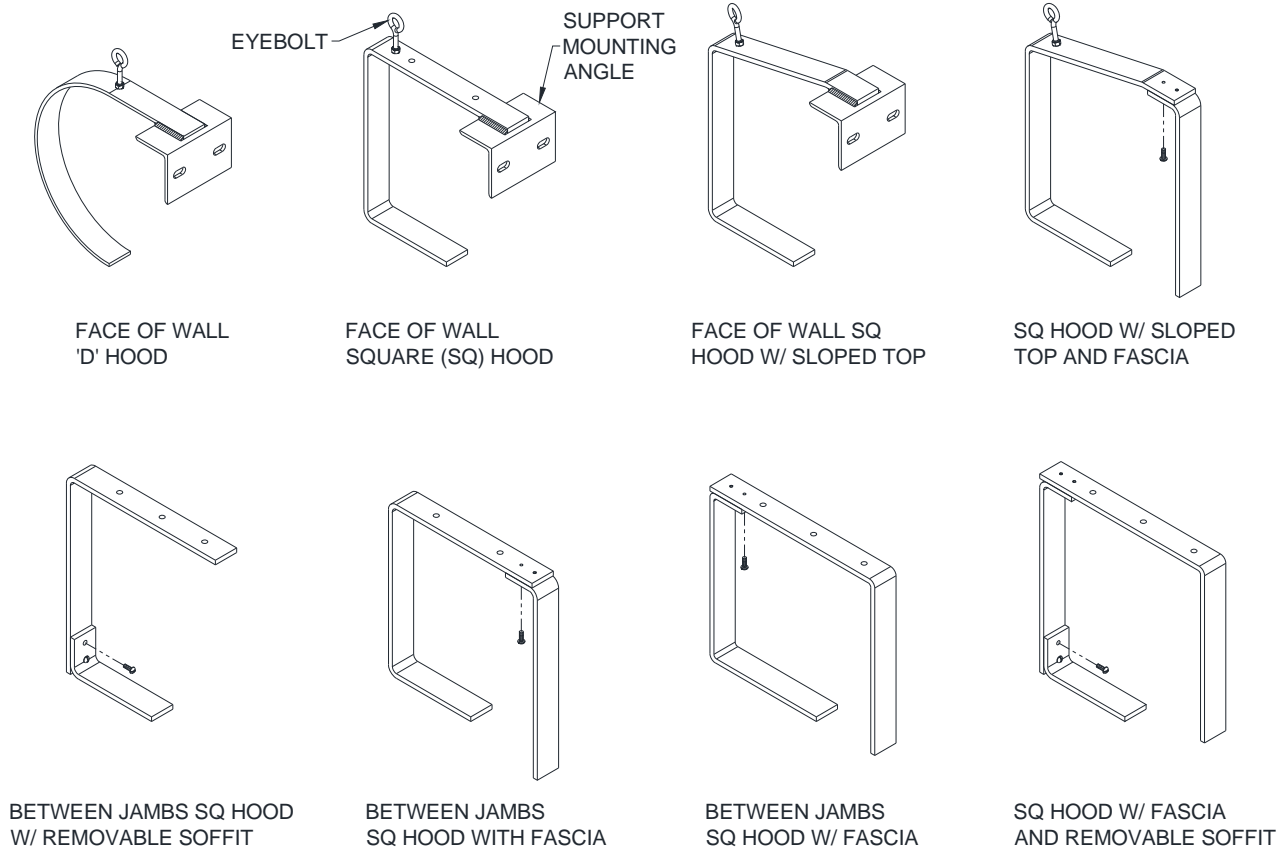

Figure 9.1 - Hood Supports
1. Refer to the job information to determine the type and quantity of hood supports required for your door. Hood supports will be noted on the elevation view of the job construction drawings. See **Figure 9.1** for hood support types.